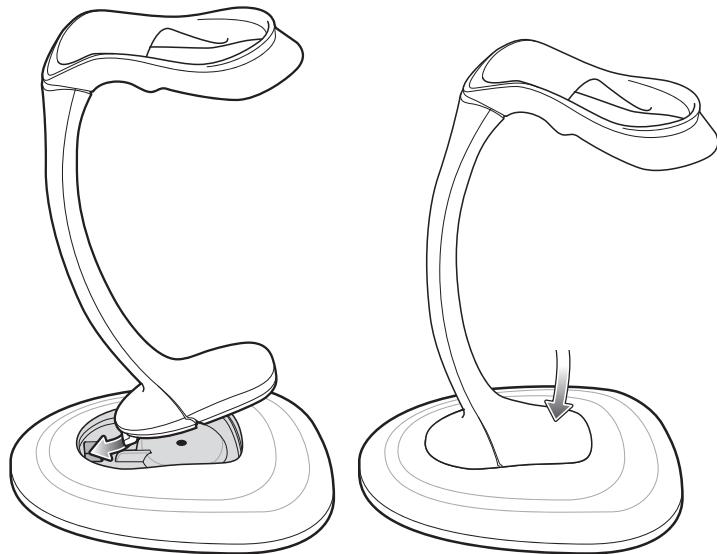

Figure 1-4 Inserting Stand Pedestal in Base
1. Insert the stand pedestal into the base as shown in Figure 1-4.